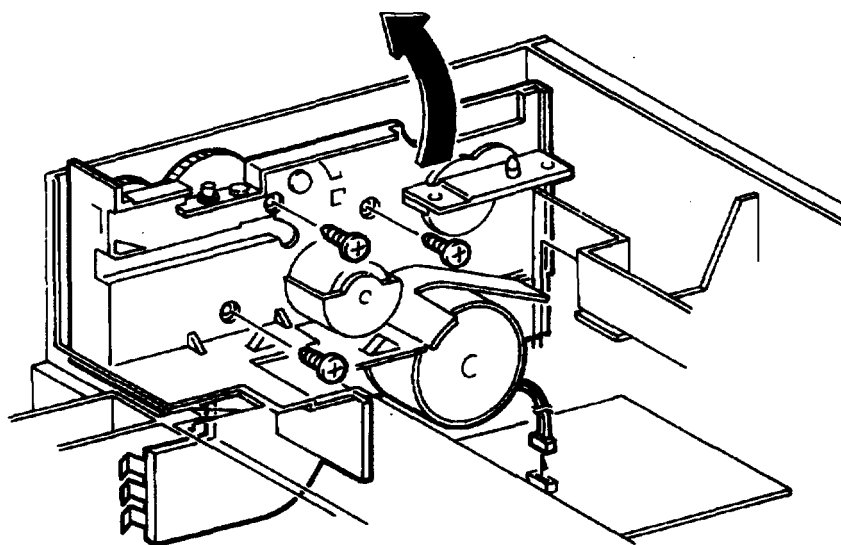

Figure 4-26. Removing the Main Drive Assembly
7. Remove the 3 screws securing the Main Drive Assembly (Figure 4-26).